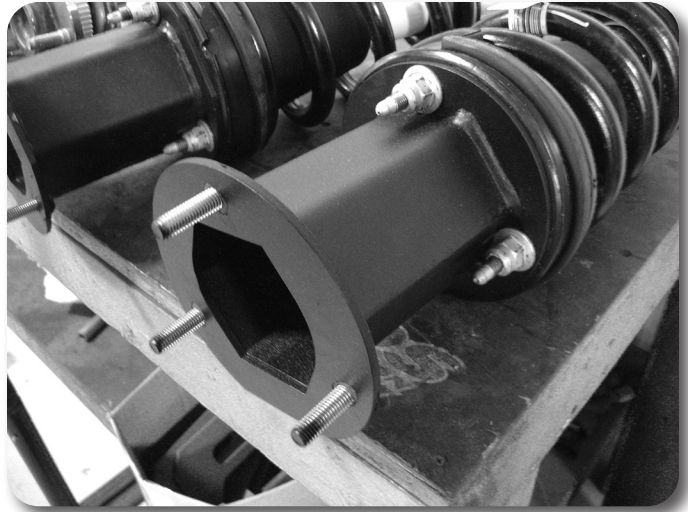

Figure 8
16. Install the new rear crossmember with the factory lower control arm bolts, nuts and washers. When installed the rectangular cross tube should offset closer to the rear of the vehicle **Figure 8**. Run the bolts from front to rear. Leave hardware loose.
21. Install the provided strut spacers on the struts with provided nuts and washers. The spacers will only install one way. Torque the hardware to 30 ft-lbs. **Figure 8**